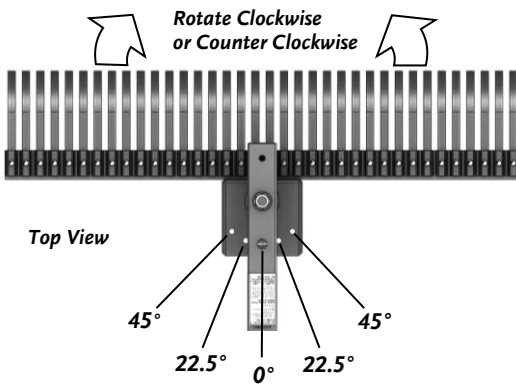

Figure 15
2. Rotate the Rake to your desired position (**Figure 15**).